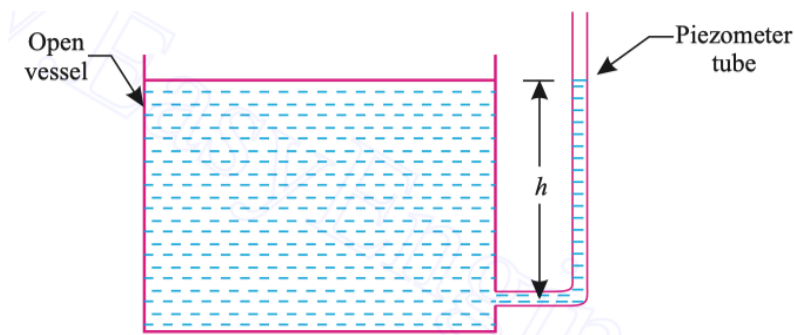

Fig. 2.9. (a) Piezometer tube fitted to open vessel.
From the above calculations it may be observed that the *total pressure force at the bottom of the cylinder is greater 0.9 m dia. than the weight of total volume of water (W) contained in the Fig. 2.9 cylinders. This is hydrostatic paradox.*
The following is the *explanation of the hydrostatic paradox*: Refer to Fig. 2.9.
A piezometer is the simplest form of manometer which can be used for measuring *moderate pressures* of liquids. It consists of a glass tube (Fig 2.9) inserted in the wall of a vessel or of a pipe, containing liquid whose pressure is to be measured. The tube extends vertically upward to such a height that liquid can freely rise in it without overflowing. The pressure at any point in the liquid is indicated by the height of the liquid in the tube above that point, which can be read on the scale attached to it. Thus if w is the specific weight of the liquid, then the pressure at point $A(p)$ is given by: $p = wh$